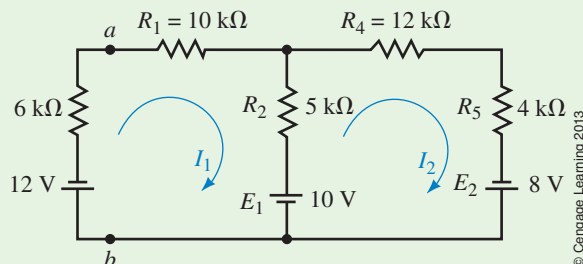

FIGURE 8–28
Step 2: Redrawing the circuit is further simplified by labelling some of the nodes, in this case a and b . After performing a source conversion, we have the two-loop circuit shown in Figure 8–28. The current directions for I_1 and I_2 are also illustrated.